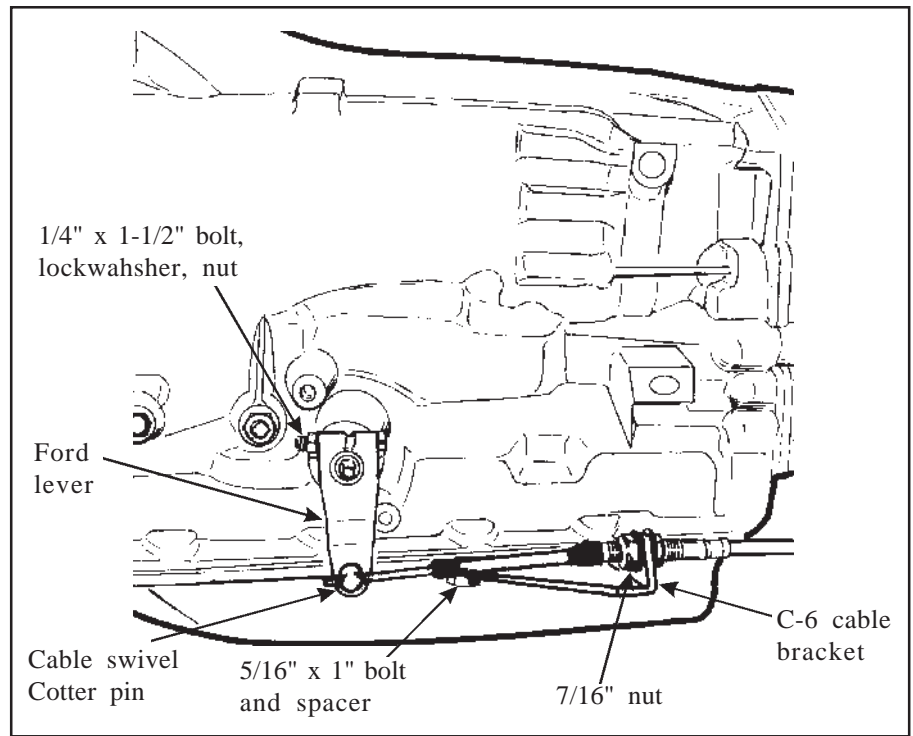

Figure 6
**C-6:** Remove the two transmission oil pan bolts from the left rear corner of the oil pan. Install cable bracket in position, see **figure 6**, with two spacers between the pan and bracket. (If your transmission is equipped with a cast aluminum oil pan, these spacers are omitted.) Install the two 5/16-18 x 1.00" bolts supplied and tighten 12-13 ft-lb. Do not overtighten as this can damage pan gasket.